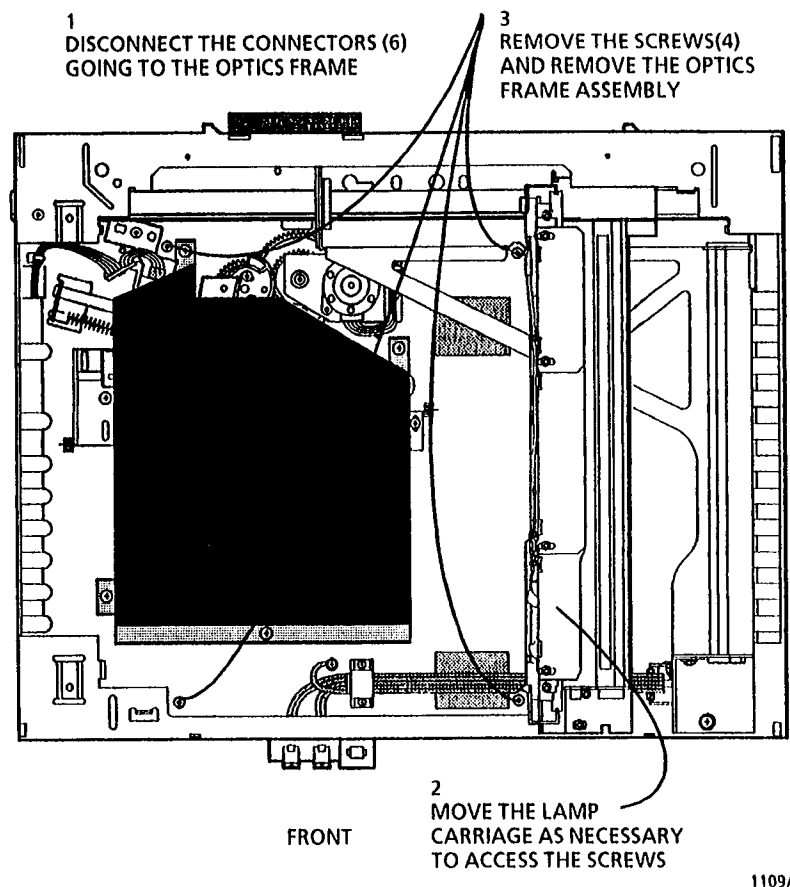

Figure 1. Removing the Optics Frame Assembly
3. (Figure 1): Remove the Optics Frame Assembly.